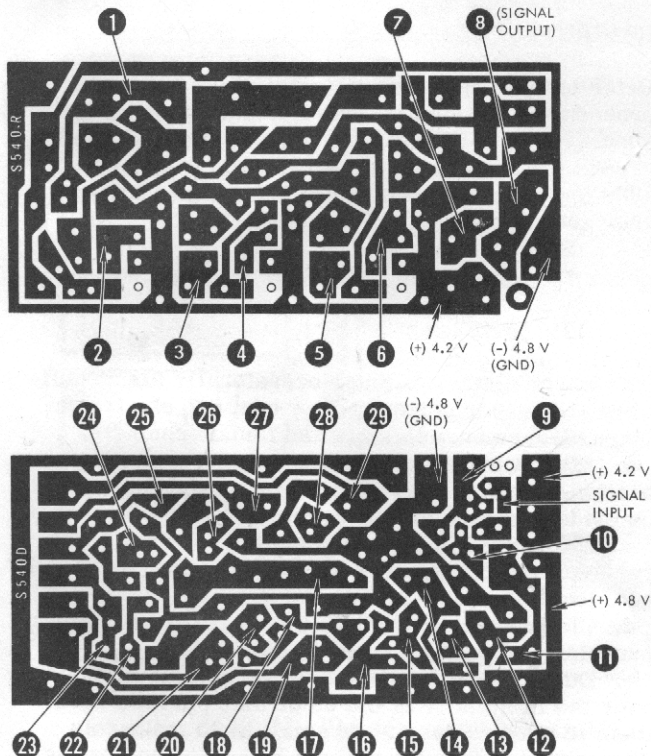

Figure 20. Receiver Test Points (Bottom Side)
receiver front end voltage (+4.2 - 4.3V). (See figure 20 for proper test points.) If voltage is not correct, locate and remove cause of trouble.
c. Receiver and decoder test points on figures 20 and 21 correspond with those on the schematic diagrams, figures 3 and 6. By using an oscilloscope for signal tracing it is very easy to locate a non-operative circuit.